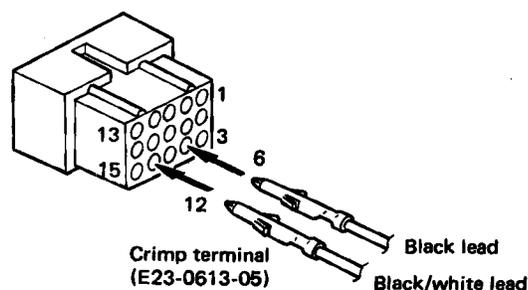

Fig. 4
3. Reinsert the terminal with the black and white stripe lead into hole number 12, and the terminal with the black lead into hole number 6 (Fig. 4).